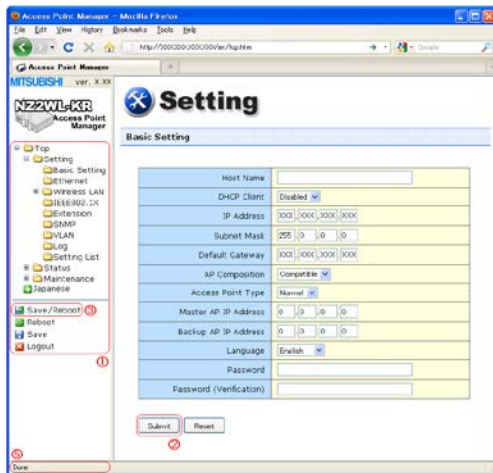

Figure 3.3. Setting by Access Point Manager (KR)
Select "Setting" in the left-hand menu ((1) in Figure 3.3) and further select the desired setting items from the opened menu. Information such as setting items will be displayed in the right-hand frame.
Click "Submit" ((2) in Figure 3.3) after changing settings on each page to temporarily save the settings in this product.
The settings become enabled when the product is restarted after all the setup procedure is completed and the settings are stored. Click "Save/Reboot" ((3) in Figure 3.3) on the left-hand menu.
"Time Out Error" will occur when there is no operation for approximately five minutes. The indicator (a bar drawn with ".") on the status bar ((5) in Figure 3.3) represents the approximate time for timeout^{*1}. The number of "." is gradually decreased and all "." disappear before timeout.